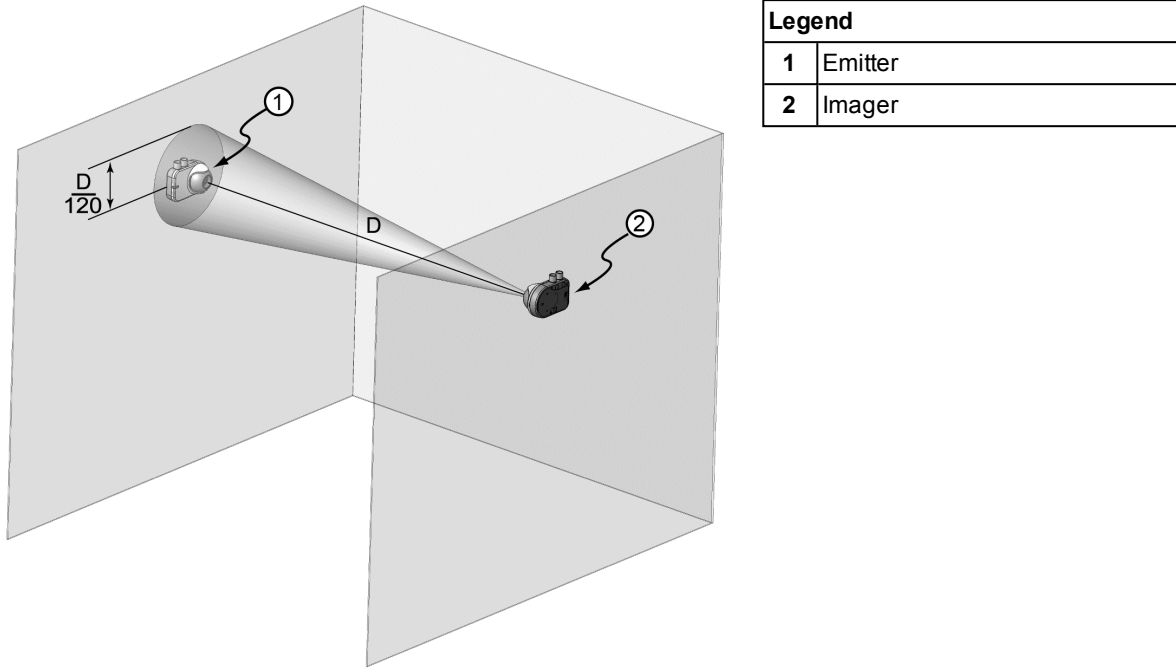

Figure 4-17: Alignment guidelines for 10° Imager to Emitter
Note: Emitter alignment follows the same guidelines as 10° Imager alignment. The Emitter must be positioned with the Laser Alignment Tool to within $D/120$ of the Imager, where D in Figure 4-17 is the distance between the Emitter and Imager.
1. Switch ON and insert the laser alignment tool (1) into the alignment hole (2).
2. Use the laser tool to move the optical sphere (3) until the laser beam is pointing towards an area within the specified limits as shown in Figure 4-17.